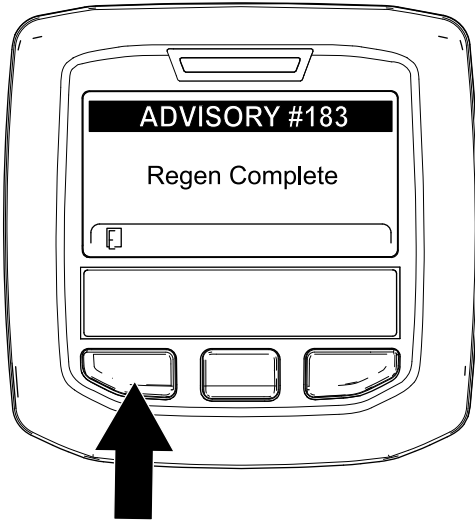

Figure 61
9. When the engine computer completes a parked or recovery regeneration, the InfoCenter displays ADVISORY #183 (Figure 61). Press the left button to exit to the home screen.
Note: If the regeneration fails to complete, the InfoCenter displays Advisory #184 (Figure 61). Press the left button to exit to the home screen.